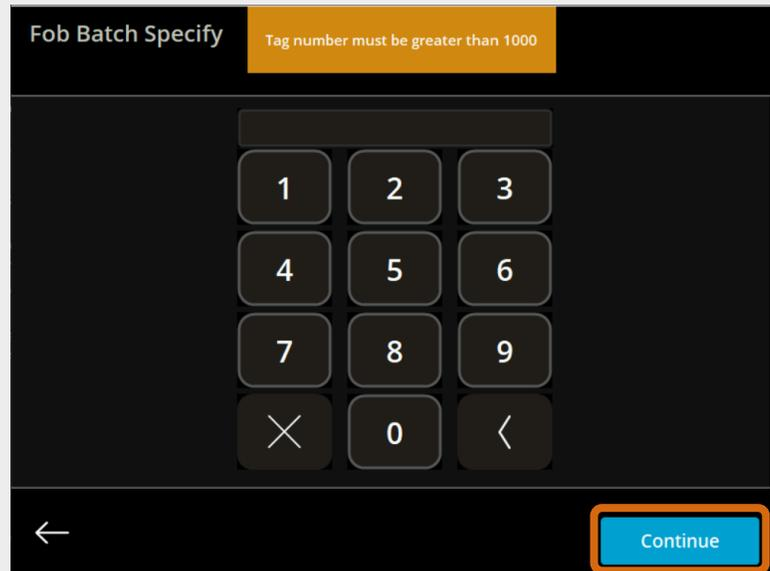

Fig. 31 – Enter tag number
7. Press **Continue**, as shown in Fig. 31.